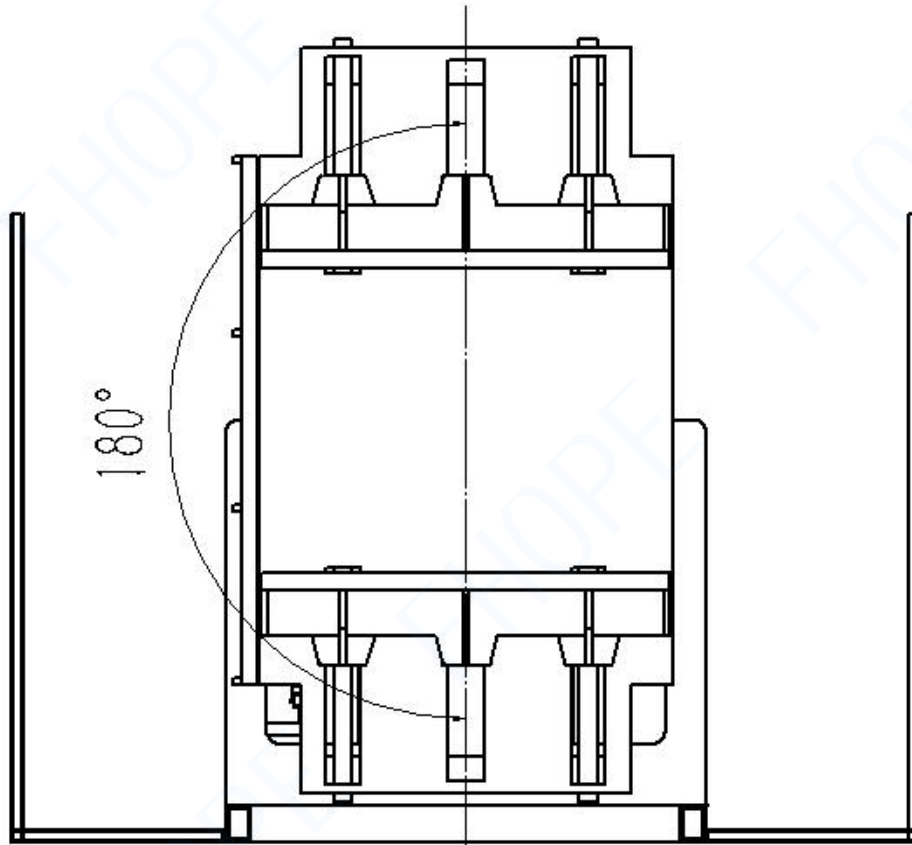

Figure 2
3. flip (the angle of flipping is shown in Figure 2)